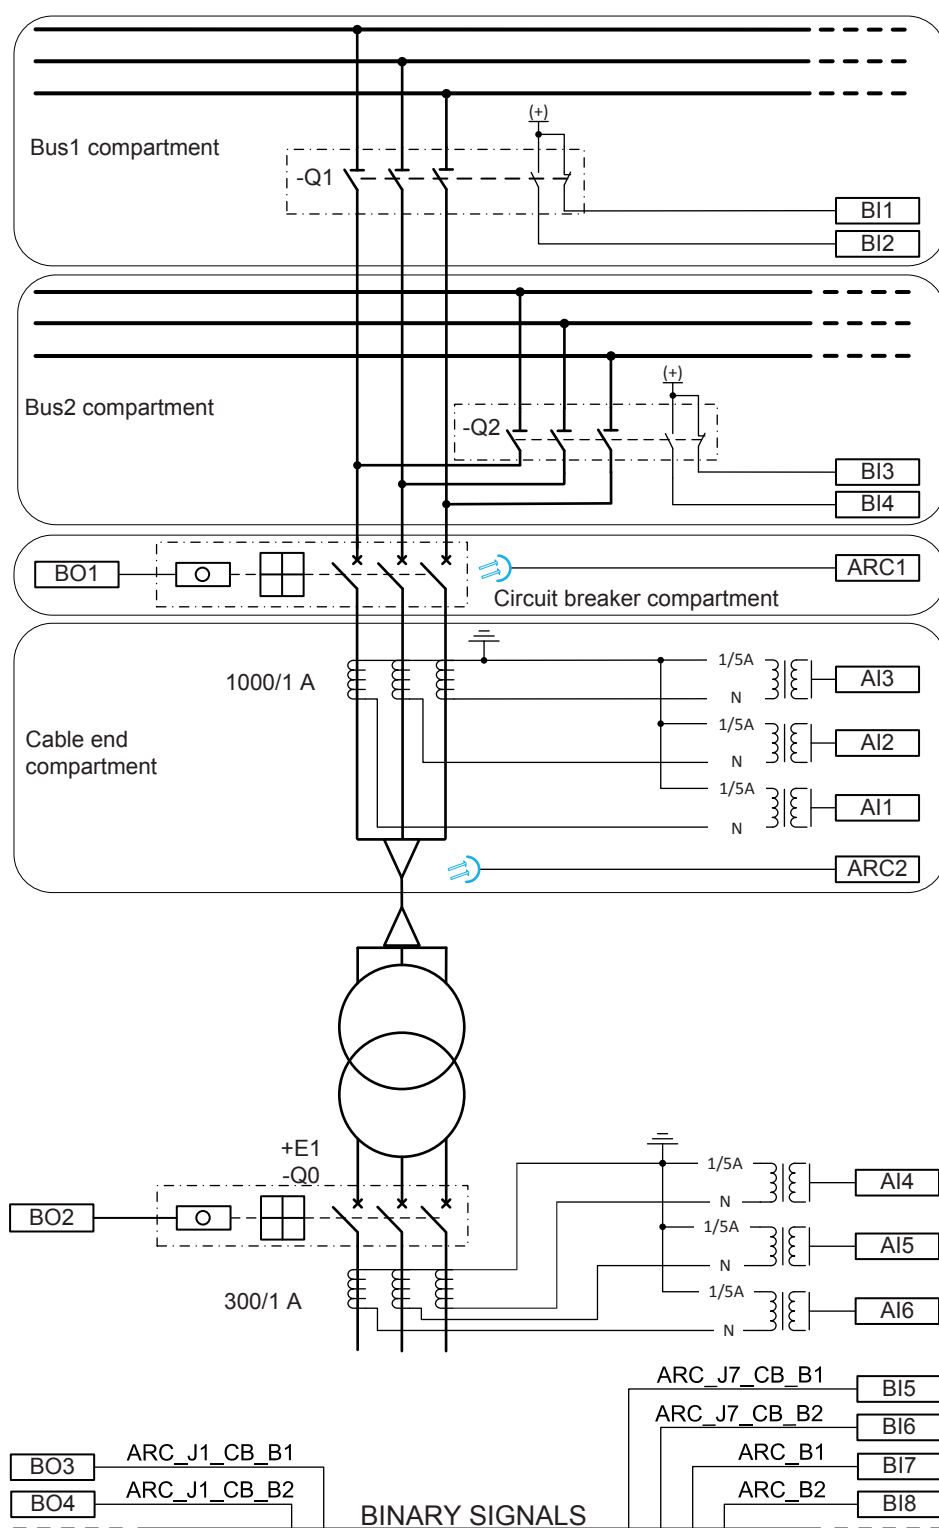

Figure 64: Connection diagram for the incoming feeder +J1
Figure 64 shows the binary inputs (BI), binary outputs (BO), analog input (AI) signals and ARC inputs.